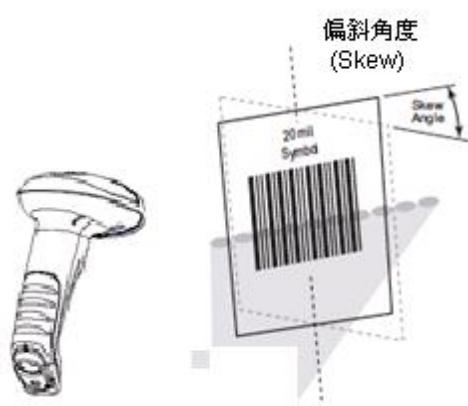

Fig. 1-16
- ✧ Skew: $\pm 75^\circ$, 0° Roll and 0° Pitch (Fig. 1-16)